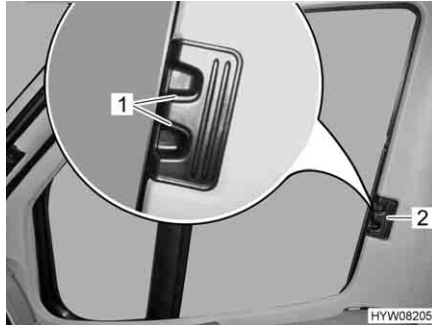

Fig. 57 Roman shade for driver's and passenger's window
- Press the release handles (Fig. 57,1) and hold them down.
- Using the handle (Fig. 57,2), draw the Roman shades for the driver's and passenger's window to the other side of the window and secure them to the magnetic strips.
- Use handle (Fig. 57,2) to push in the Roman shades for the driver's and passenger's window as far as possible.
- Let go of the release handles (Fig. 57,1) and let them engage.